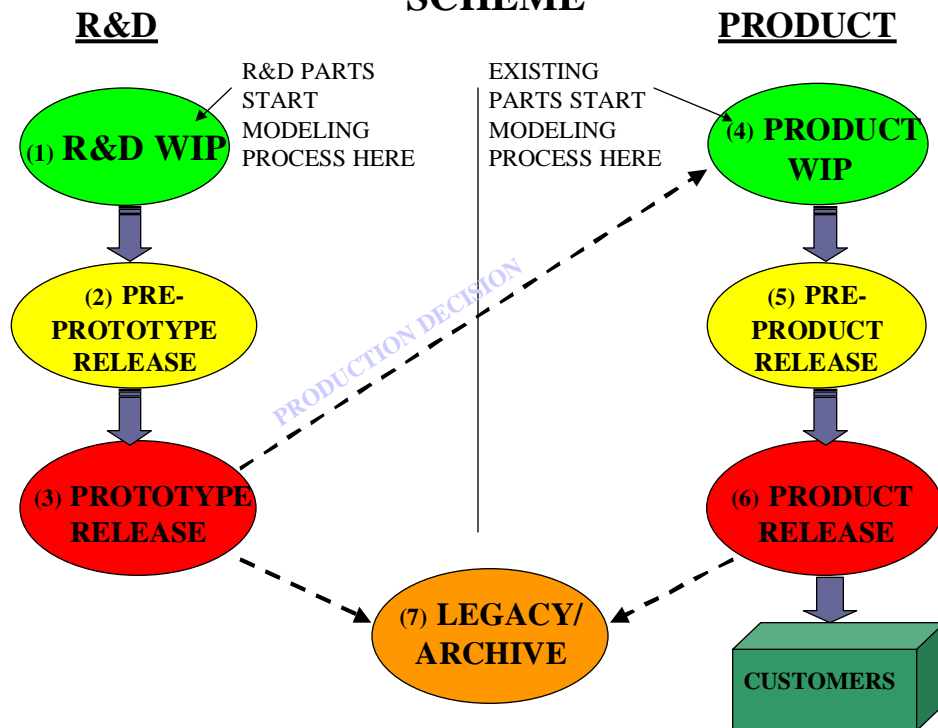

FIGURE 1. 3D/TDP Release Scheme
3D/TDP Release Scheme	Figure 1
1.2 RELEASE LEVELS: The database is structured with seven release levels as shown in fig 1. The R&D WIP is the Research and Development Work in Progress Release Level and consists of parts, assemblies and drawings currently under construction, or models being used for conceptualization, prototypes, etc. for TACOM R&D programs. The Pre-Prototype Release Level contains models that the designer has completed initial design on and has submitted for review. The Prototype Release Level is for those R&D parts approved for prototyping and testing purposes. The Product WIP is the Product Work in Progress release level and consists of parts, assemblies and drawings currently under construction, or models being used for conceptualization, engineering changes, etc. for TACOM production programs. The Pre-Product Release Level contains models developed in accordance with this standard and submitted for review. The Product Release level contains models certified and approved in accordance with this standard and documented on an Engineering Release Record (ERR) by the Configuration Manager. The Legacy/Archive Release Level contains models previously approved but which are no longer needed in the Product Release or Prototype Release levels.